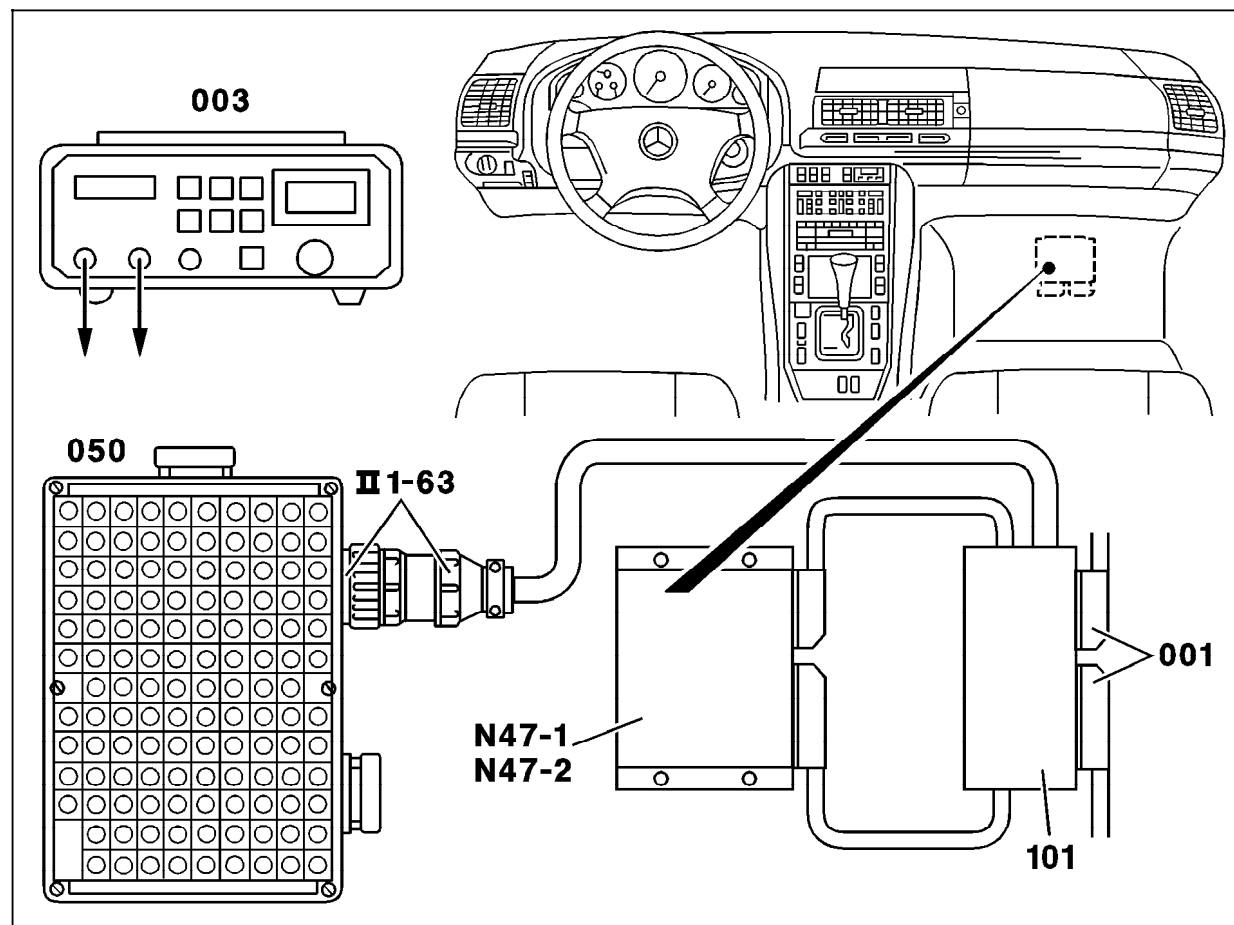

Figure 1
- 3. Connect socket box with test cable as per connection diagram (Figure 1).